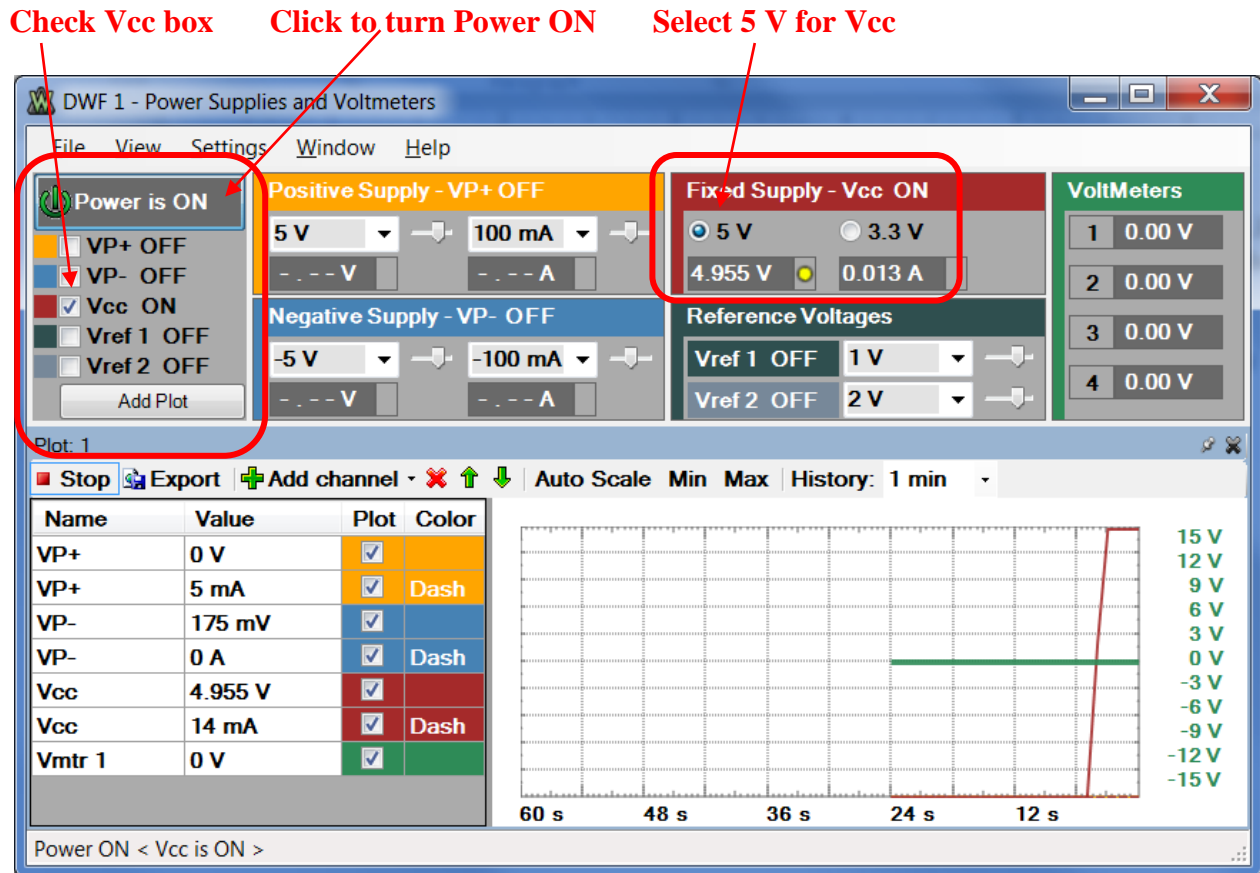

Figure 9. WaveForms Power Supply and Voltmeter Instrument
6. Check the Vcc power supply box and uncheck all the other power supplies and reference voltages (see Figure 9).
7. Set Vcc to 5V (see Figure 9).
8. Turn the power ON (see Figure 9).